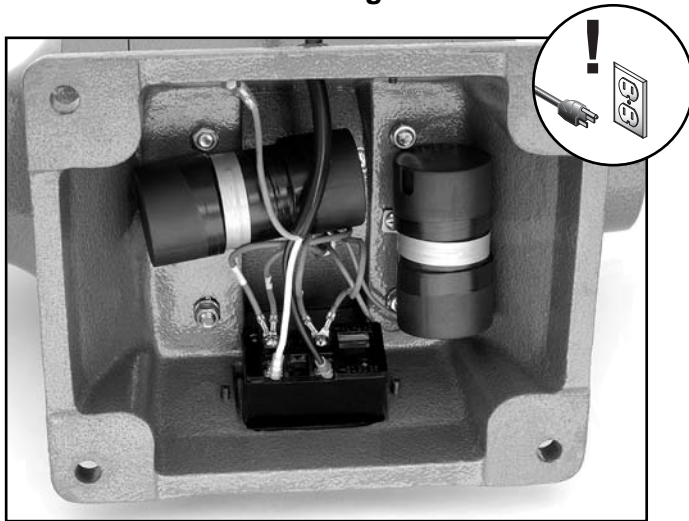

Figure 27. G0518 Wiring.
3. Carefully lift the motor assembly from the stand and lay it on its side to reveal the electrical wires shown in **Figure 27**.